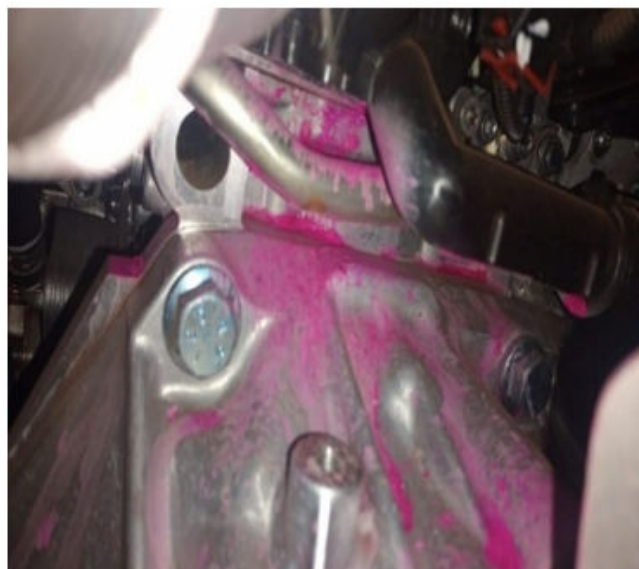

Fig. 2
4. Was there a coolant leak found Fig. 2?